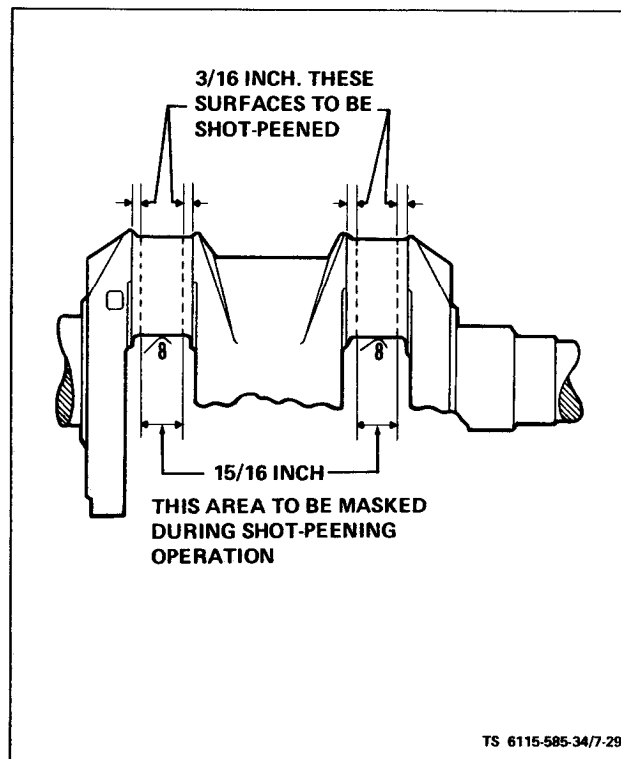

Figure 7-29. Crankshaft Peening
(1) Crankshaft. Clean crankshaft and blowout all oil passages. Check journals for out-of-round, taper, grooving or ridges. Pay particular attention to ridges or grooves on either side of oil hole areas. Unusual conditions here often point to previous neglect of oil changes. If journal dimensions are not within limits or journals are scored, metallize and regrind crankshaft to standards.
(2) Bearings. Replace bearings if clearances are greater than limits (see table 1-2), or if bearings are worn, grooved or broken.
(3) Rear Oil Seal. Inspect seal for wear or damage which might cause it to leak.
c. Rebuild Crankshaft. If crankshaft requires regrinding, metallize and regrind to standards. Special procedures must be observed when reworking diesel crankshafts. In addition to regrinding, the crankshaft must be shot-peened and super-finished. Failure to shot-peen the crankpin fillets is likely to cause early failure. When the shaft is reground, follow this data and figure 7-29 to shot-peen each crankpin fillet.
(1) Almen gauge reading, 0.012-A.
(2) Peen with 0.019 inch diameter cast steel shot.
(3) Peen for 30-seconds on each crankpin fillet.